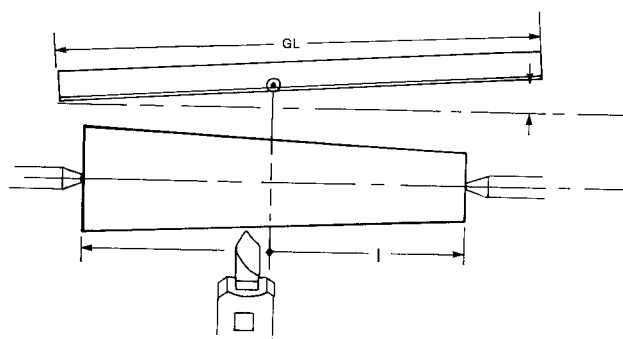

Figure 54-8 Metric taper turning by the taper attachment method.
1. If the angle of taper is given on the drawing, set the guide bar to one-half the angle (Fig. 54-8).